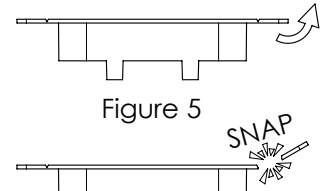

Figure 5
- (Optional) Snap-off edges.** Using the integrated bend lines, the outer edges may be removed if more clearance is needed (Figure 5 and 6).